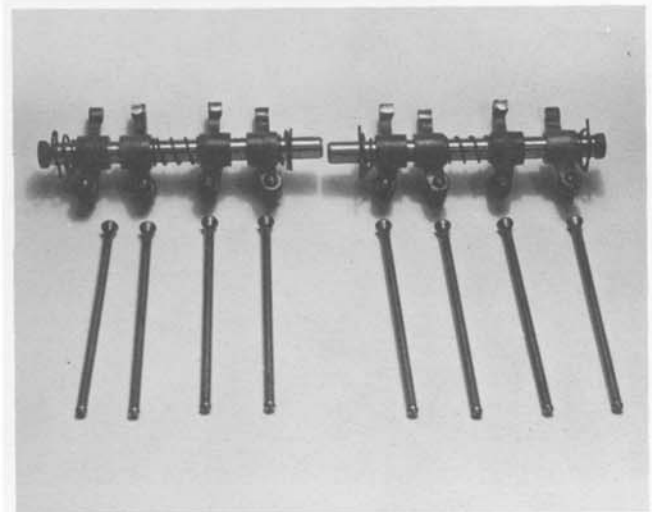

FIGURE 3. ROCKER ARM AND PUSHROD ASSEMBLIES
5. Remove rocker arm shaft assemblies and pushrods. They should be put aside in the order in which they were removed (Figure 3).